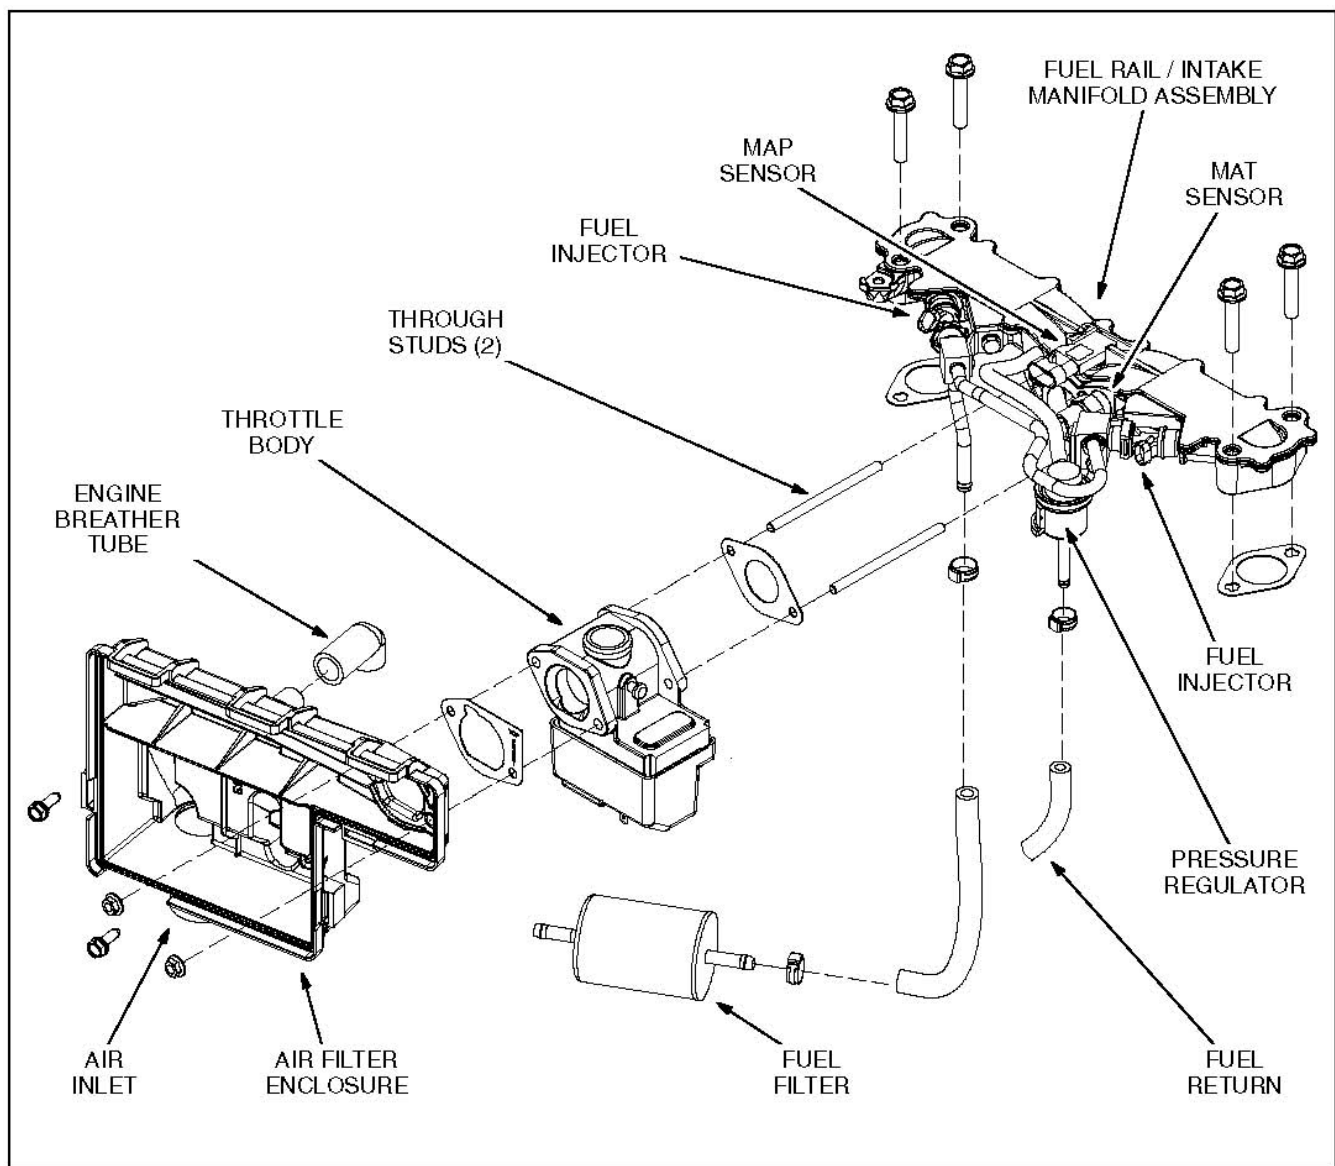

FIGURE 41. FUEL INJECTION SYSTEMS—SERIES HGJAA AND HGJAD
These generator set models are equipped with sequential multi-port fuel injection (Figure 41). A remote high-pressure fuel pump (Figure 48) supplies fuel to the generator set. The fuel pressure regulator adjusts fuel pressure based on engine intake manifold pressure. As engine load increases, fuel pressure will increase. In addition, the generator set:
The throttle body can be removed without removing the generator set enclosure. Referring to Figure 41, remove the throttle body as follows:
2. Remove the throttle body (Figure 41).